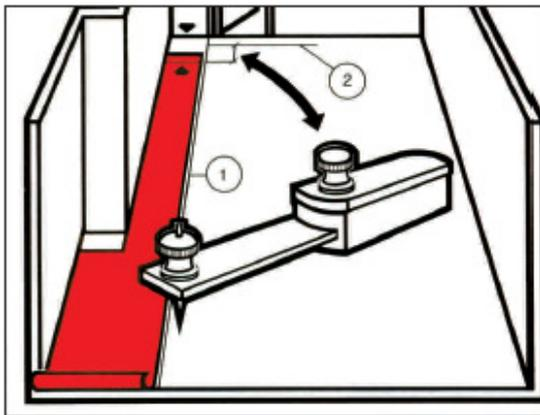

Fig 9.
- Set the long scribe to the distance between the two cross lines. **Refer to Fig 9.**